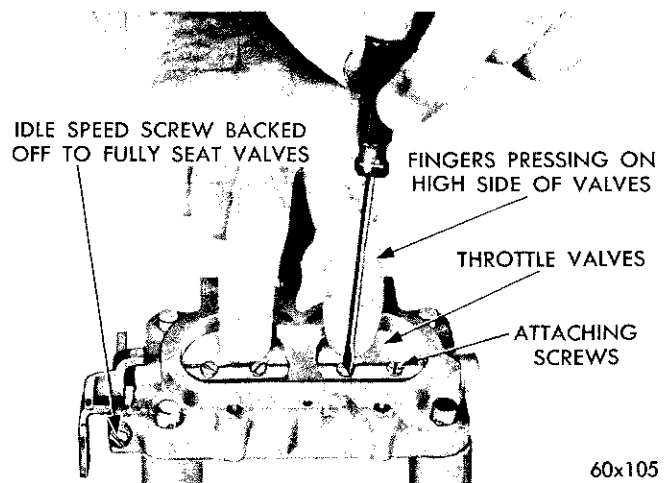

Fig. 11—Installing Throttle Valves
(4) Slide the throttle shaft and lever out of the body.
(5) Install new throttle shaft and lever.
(6) Install throttle valves in their respective bores (with the valve numbers toward the manifold flange). Install new screws but do not tighten. Hold the valves in place, with the fingers pressing on the high sides of the valves, as shown in Figure 11. Tap the valves lightly with a screwdriver to seat in the throttle bores. Tighten the screws securely and stake by squeezing with pliers.
(7) Install the idle mixture screws and springs in the throttle body. (The tapered portion must be straight and smooth. If the tapered portion is grooved or ridged, new idle mixture screws should be installed to insure having correct idle mixture control.) **DO NOT USE A SCREWDRIVER.** Turn